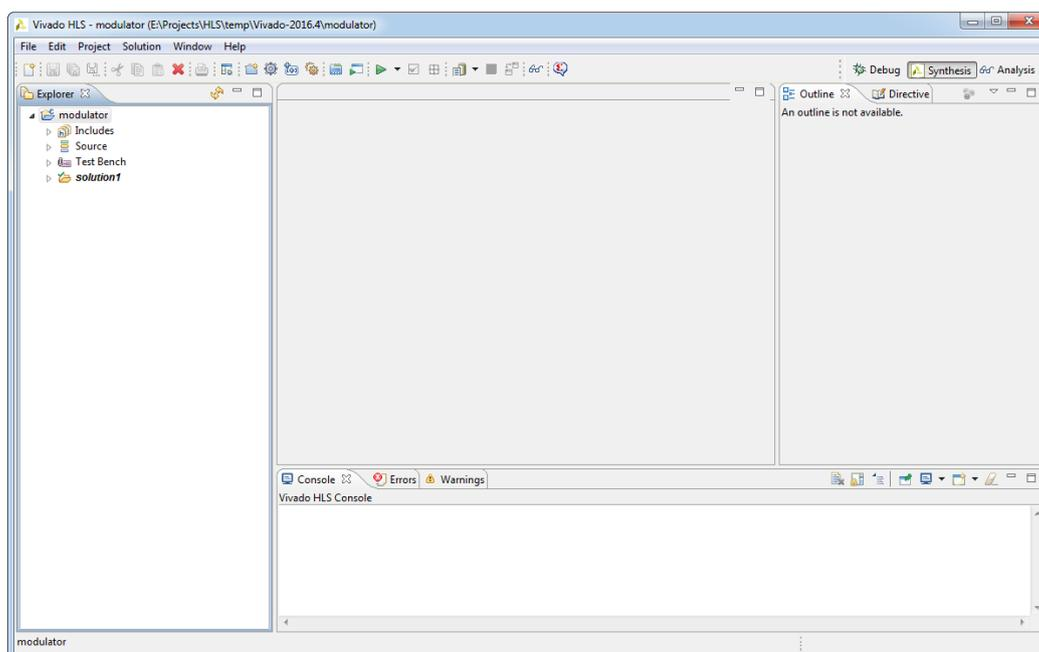

Figure 2.12: Vivado HLS Project
Step 11. In the **Solution Configuration** dialog box, click **Finish** to open the created Vivado HLS project, see Figure 2.12.
After we finished with the new project creation, in a few seconds Vivado HLS project will appear, see Figure 2.12.